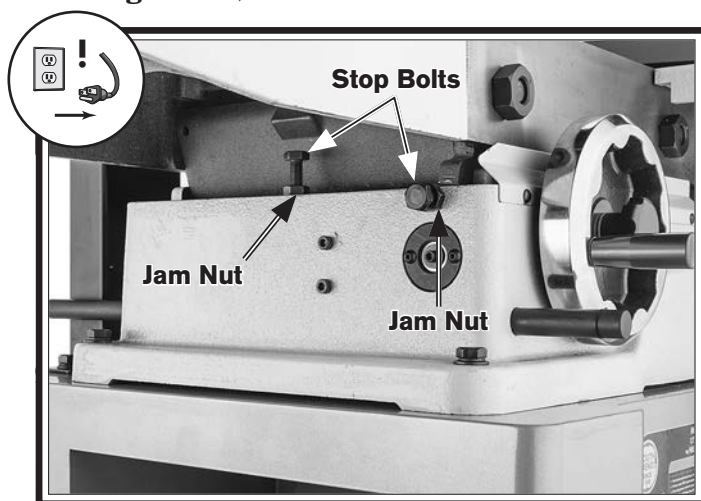

Figure 39. Outfeed table positive stop bolts.
4. Loosen outfeed table lock located at front of machine, then loosen jam nuts and positive stop bolts located under outfeed table (see **Figure 39**).